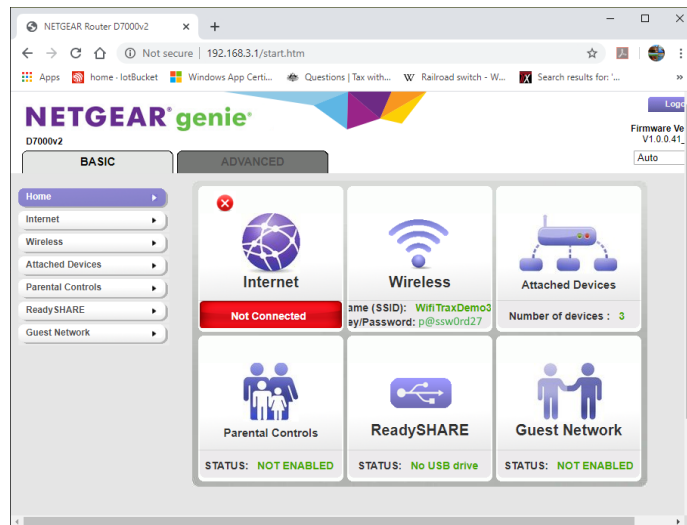

Figure 25 A typical router admin page
- (4) Once you have given the credentials, you will see the admin page. A typical one is shown for a Netgear D7000 in Figure 25. Find the "Attached Devices" option and click on it.